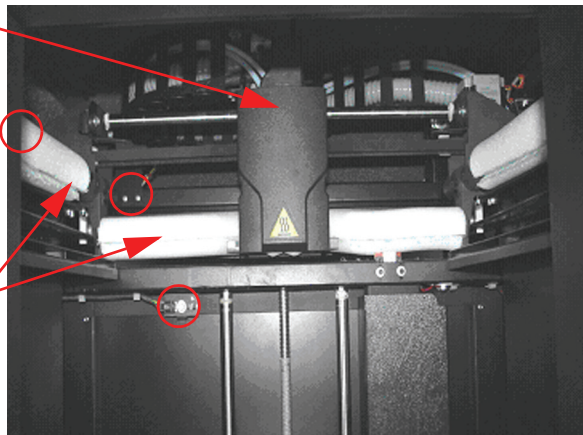

Figure 3: Foam tubes isolating the extrusion head from the Z-axis frame
Remove the foam tubes that isolate the extrusion head from the frame (see Figure 3). The printer will be damaged if powered on with the foam tubes in place.
Be careful not to damage the rod sensors when removing the foam tubes (see Figure 3).
8. Remove the foam tubes that isolate the extrusion head from the frame (see Figure 3).
Remove the foam tubes that isolate the extrusion head from the frame (see Figure 3 on page 17). The printer will be damaged if powered on with the foam tubes in place.